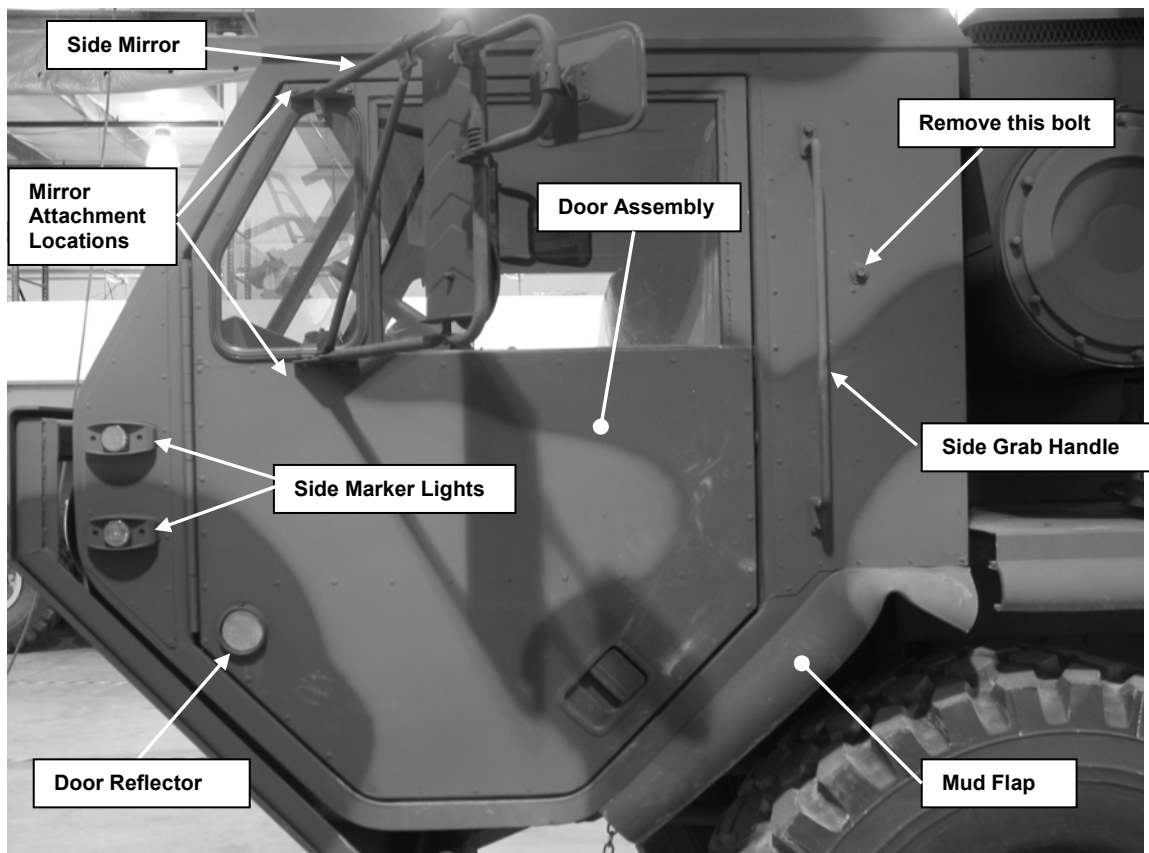

Figure 10. Side components to be removed.
- l) Remove both Side Mirrors from the vehicle doors. This is done by removing six bolts, three on the top and three on the bottom, as shown in Figure 10.
- p) Remove the Bolt located next to the Grab Handle, as shown in Figure 10. Do this on both sides of the vehicle.
- q) Remove the Mud Flaps from each side of the vehicle (see Figure 10). This is done by removing several bolts that are used to attach each one to the underside of the cab.
- r) Remove the Side Marker Lights on each side of the vehicle. This is done by removing the two screws and the cover plate on the front of the Side Marker Light (see Figure 10). Once the cover plate is removed, four additional screws can be seen that attach the base plate to the cab. Remove those screws. Mark and disconnect the connecting wires from the inside of the vehicle, and then feed the wires out through the hole in the cab and remove the light.